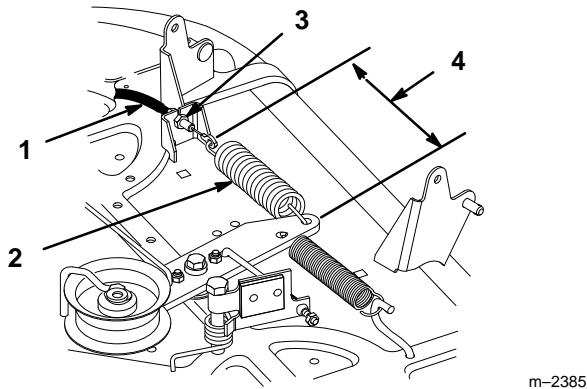

Figure 44
12. Engage blade control (PTO) lever on dash. Measure distance between hook ends of idler spring (Fig. 44). Adjust jam nuts so 6" (150 mm) dimension is obtained (Fig. 44).